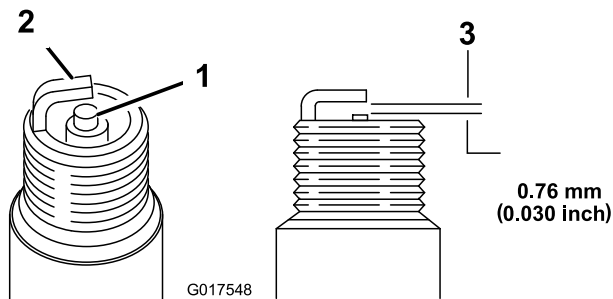

Figure 22
5. Set the gap on the plug to 0.76 mm (0.030 inch) as shown in Figure 22.